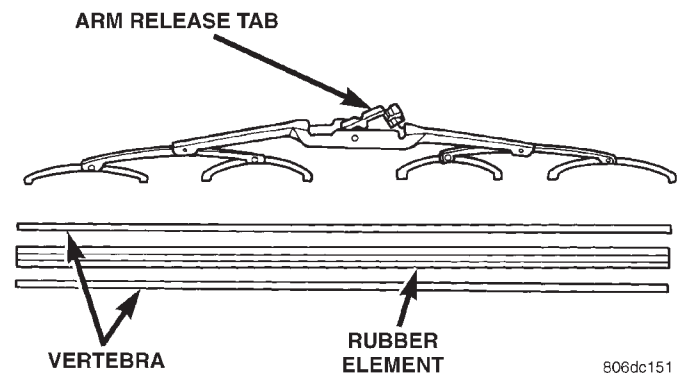

Fig. 14 Wiper Blade and Element
(1) Turn wiper switch ON, position blades to a convenient place on the windshield by turning the ignition switch ON and OFF. Turn ignition switch OFF, when blade is in the desirable position.
(2) Lift wiper arm to raise blade off glass.
(3) Remove blade assembly from arm by pushing release tab under arm tip and slide blade away from arm tip (Fig. 14) and (Fig. 15).